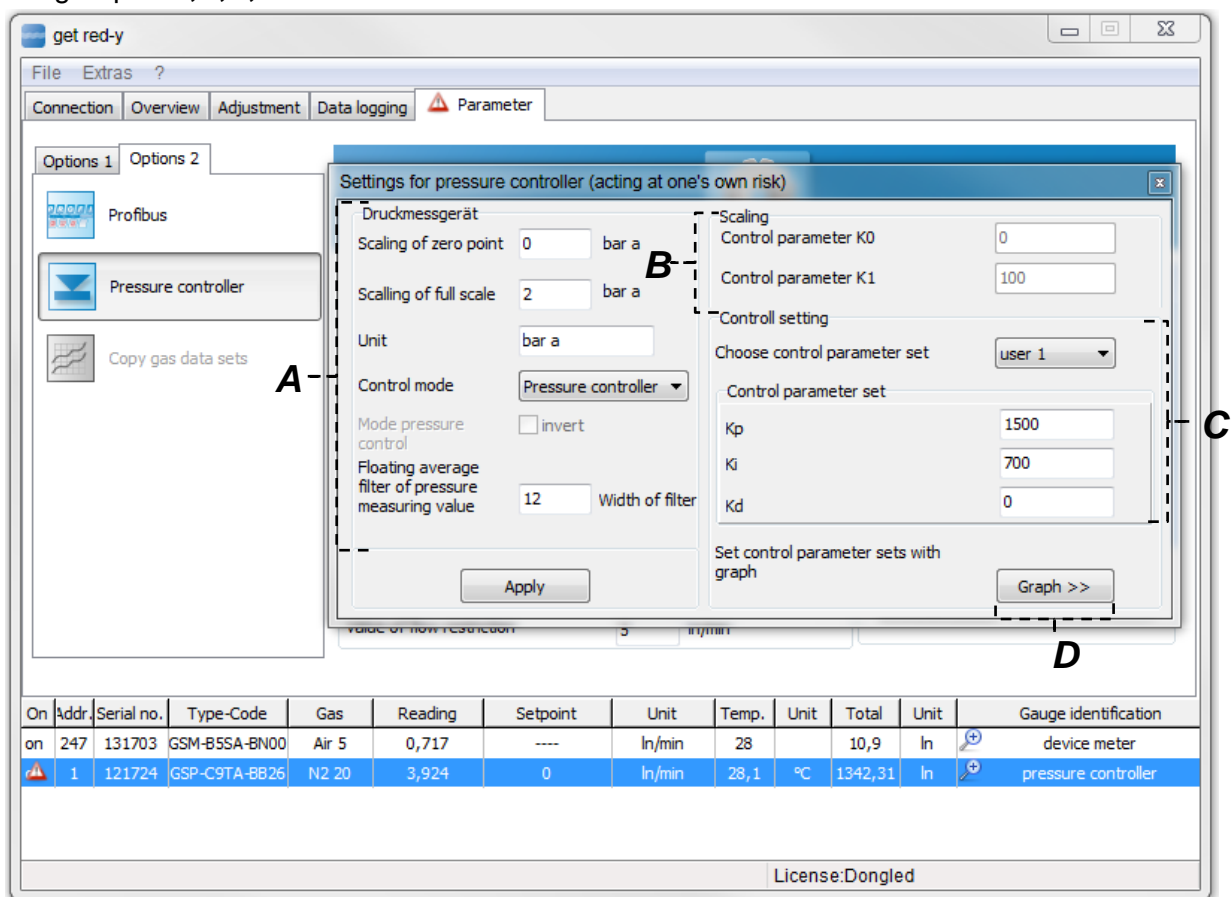

Figure 32: Enhanced settings for control parameter records
- E. Settings:** You can set the most important parameters for pressure regulation here. Clicking the [Settings>>] button to go to a new window (See Figure 32, [Pressure control setting]).